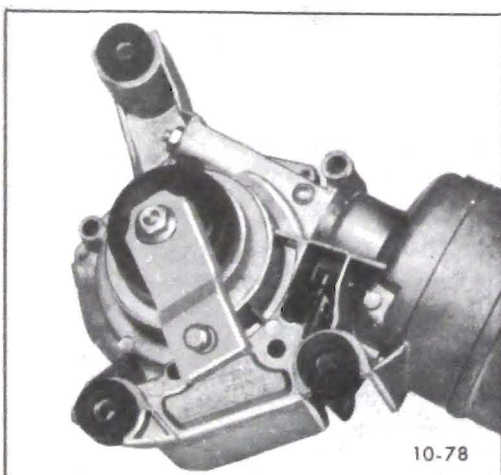

Figure 10-50 Install Crank Arm on Motor
8. Operate wiper to "Park" position and install crank arm in the approximate position shown in Figure 10-50.